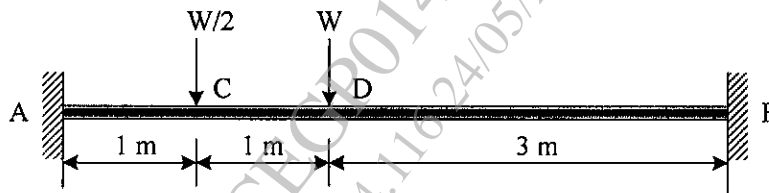

Fig. 4
- (b) A fixed beam is loaded and supported as shown in Fig. 4. Calculate the collapse load for the beam if the plastic moment of resistance of the uniform section of the beam is 50 kNm. [7]